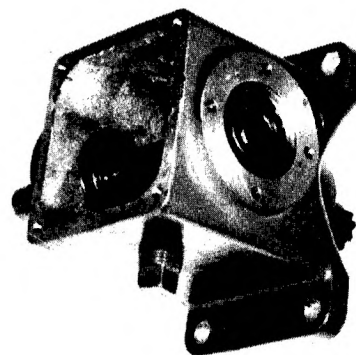

FIG. 10.16--BEARING INSTALLED OVER INPUT SHAFT
21. Install bearing on other end of input shaft. Fig. 10.16.